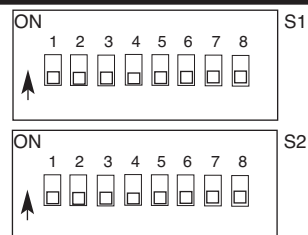

FIGURE A.3
- c) Using a pencil or other small object, slide the switch down, to the "0" position, when the low speed gear is installed. Conversely, slide the switch up, to the "1" position, when the high speed gear is installed. Refer to Figure A.3.
There are two DIP switch banks on the mother board of the Control Box. They are labeled S1 and S2 and are located and oriented as shown in Figure A.3.